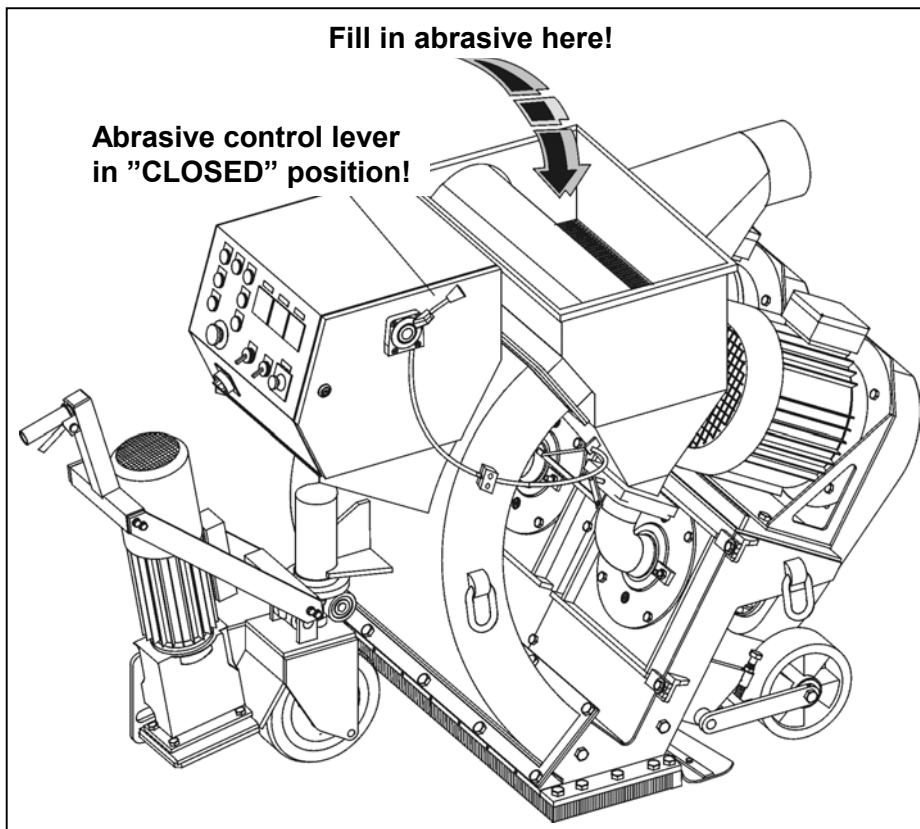

Fig. 5.2
- Check that the magnetic valves are closed (black lever in position "CLOSED" Fig. 5.2).